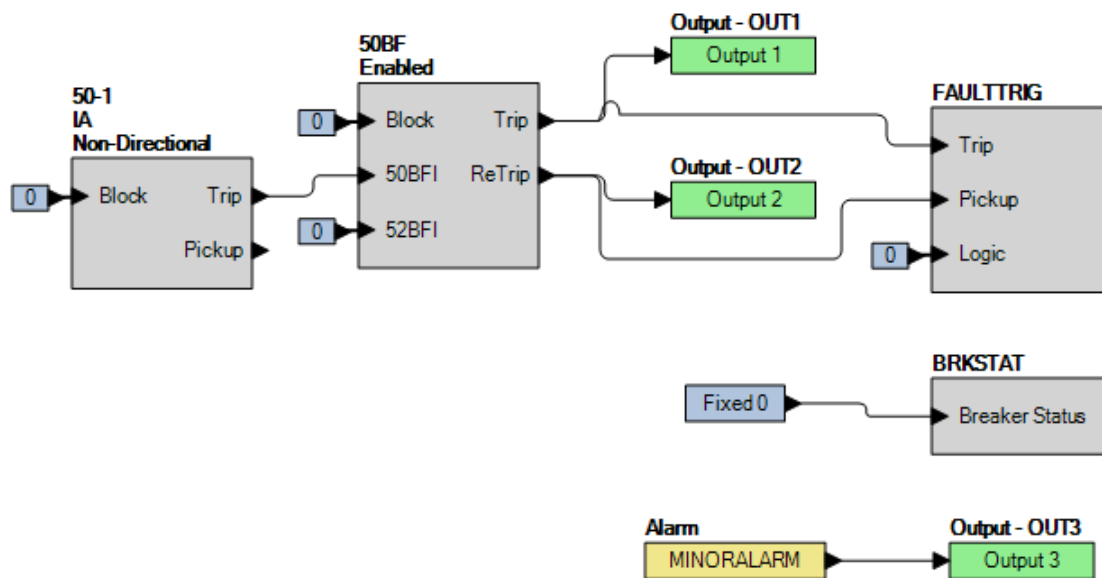

Figure 66-2. BESTlogicPlus Settings (BFI50 Current Supervised BE1-11r Trip Initiate)
Step 8: Use BESTCOMSPUs to configure the BESTlogicPlus programmable logic shown in Figure 66-2.